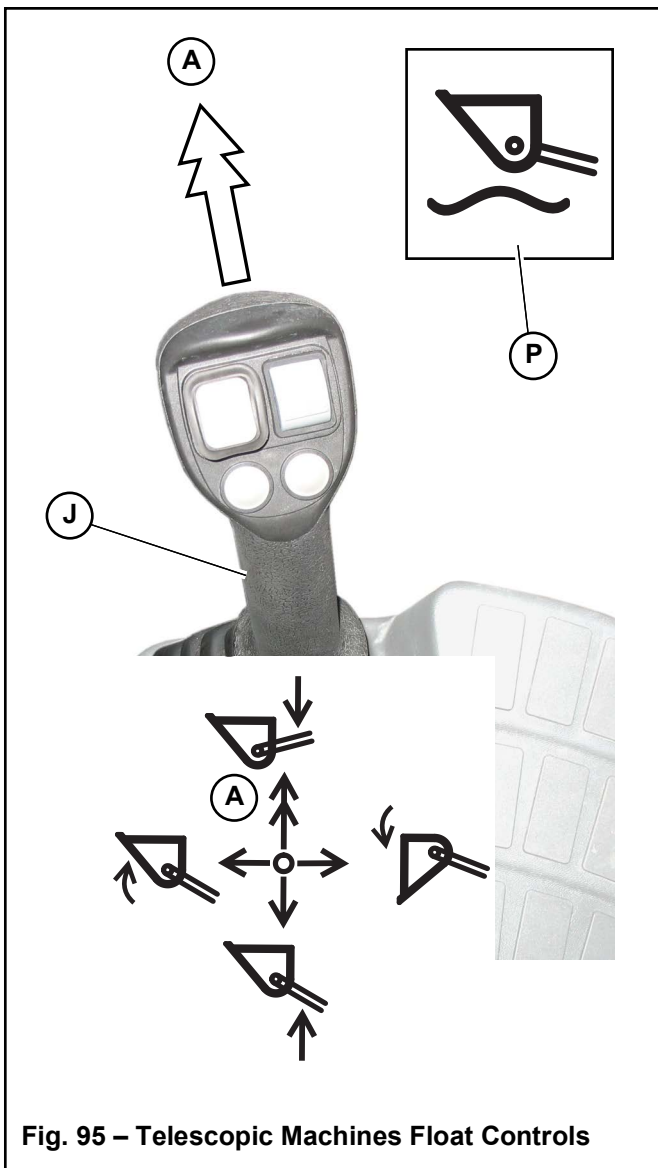

Fig. 95 – Telescopic Machines Float Controls
2. Press the top of switch (P, Fig. 95), located on the right switch panel.